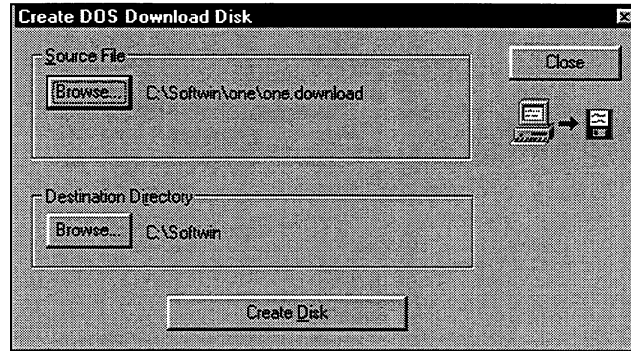

Figure 12-12. Create DOS Download Disk Dialog Box
2. Select the Create DOS Download Disk command on the Utilities menu to access the dialog box shown in Figure 12-12.